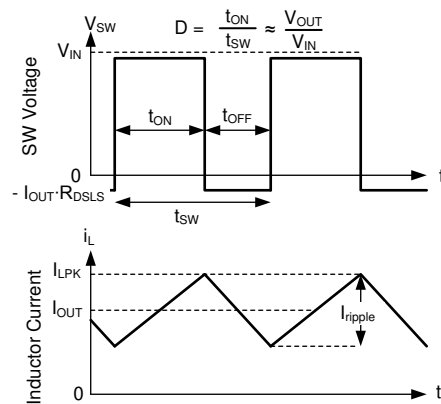

图 9-15. SW Voltage and Inductor Current Waveforms in Continuous Conduction Mode (CCM)
The following operating description of the LM61440-Q1 refers to 节 9.2 and to the waveforms in 图 9-15. In CCM, the LM61440-Q1 supplies a regulated output voltage by turning on the internal high-side (HS) and low-side (LS) NMOS switches with varying duty cycle (D). During the HS switch on-time, the SW pin voltage, V_{SW} , swings up to approximately V_{IN} , and the inductor current, i_L , increases with a linear slope. The HS switch is turned off by the control logic. During the HS switch off-time, t_{OFF} , the LS switch is turned on. Inductor current discharges through the LS switch, which forces the V_{SW} to swing below ground by the voltage drop across the LS switch. The converter loop adjusts the duty cycle to maintain a constant output voltage. D is defined by the on-time of the HS switch over the switching period: